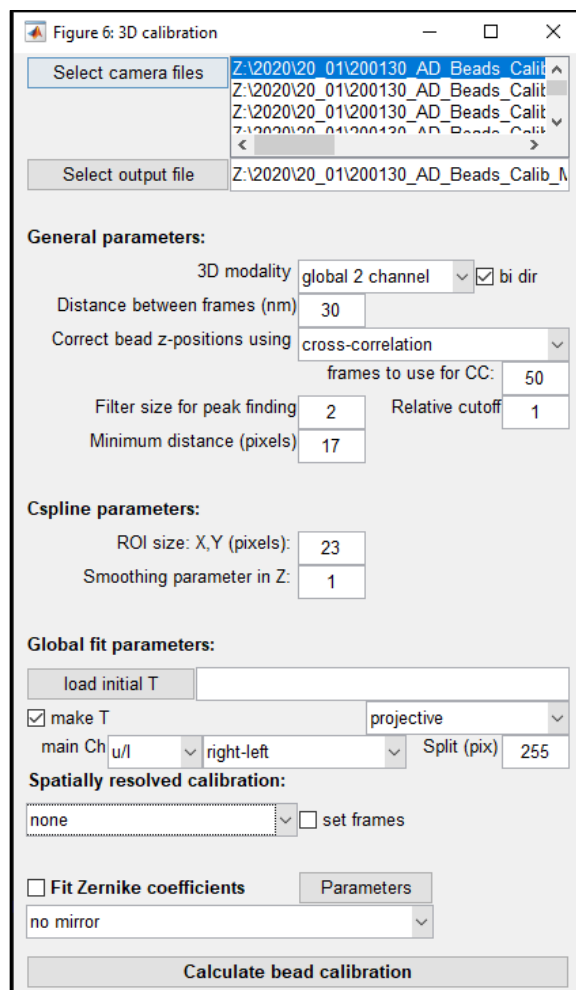

Figure 1: '*calibrate3DsplinePSF*' GUI
Supplementary Figure 1: Theoretical resolution of supercritical-angle localization microscopy for vSALM (dashed lines, a-d) and dSALM (solid lines, a-d) with an NA 1.49 (blue) and an NA 1.7 (red) objective. All values are axial localization precisions, unless noted otherwise. Point-spread-function (psf) denotes the z localization precision obtained from fitting the PSF shape as common for astigmatic SLM. Comparison of experimentally derived PSF with astigmatism (a,b) and theoretical PSF without astigmatism calculated according to Zelger et al., Biomed. Opt. Express 11 (2020) (c,d), except for dSALM1.49 in a,b that is based on the theoretical PSF of c,d. (e,f) ratio of z localization precisions between vSALM and dSALM, which corresponds to the relative gain in resolution of dSALM vs. vSALM. Calculations are based on the theoretical PSF. (a,c,e) assume constant UAF, as an approximation for fluorophores with a low quantum yield where SAF competes mostly with non-radiative decay. (b,d,f) assume constant total fluorescence, as an approximation for fluorophores with a high quantum yield.
5. Set the parameters according to Figure 1.